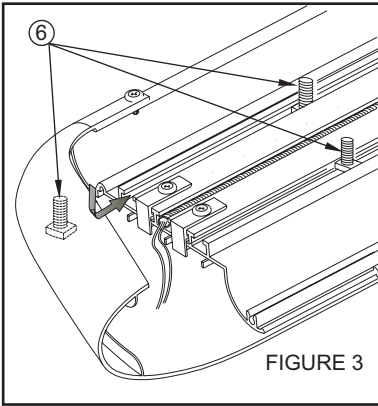
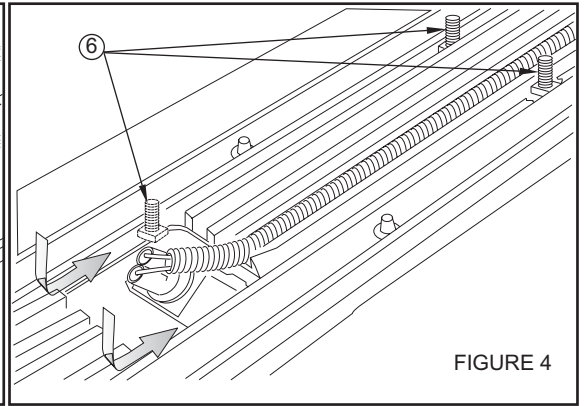

FIGURE 3
FIGURE 4
- STEP 3. Insert square head bolts as shown (4 per slot, 8 per board). **SEE FIGURES 3 AND 4.**
NOTE: For lighted boards, run wiring harness prior to attaching board to brackets (refer to Step 6). **SEE FIGURES 3 AND 4.** Run longer wire harness on passenger side.
HINT: Molded Step Boards: For longevity, check rubber seals before installation. Rubber grommets around red and blue wires going into rear sockets, should be inserted and recessed about 1/4". **NOTE:** Remove bulbs and apply white grease into sockets and replace bulbs. Apply RTV Silicone where lights go into socket. Install lights and run wire loom as shown. **SEE FIGURE 4.** For Sure-Grip Running Boards, run wire loom down center as shown. **SEE FIGURE 3.**